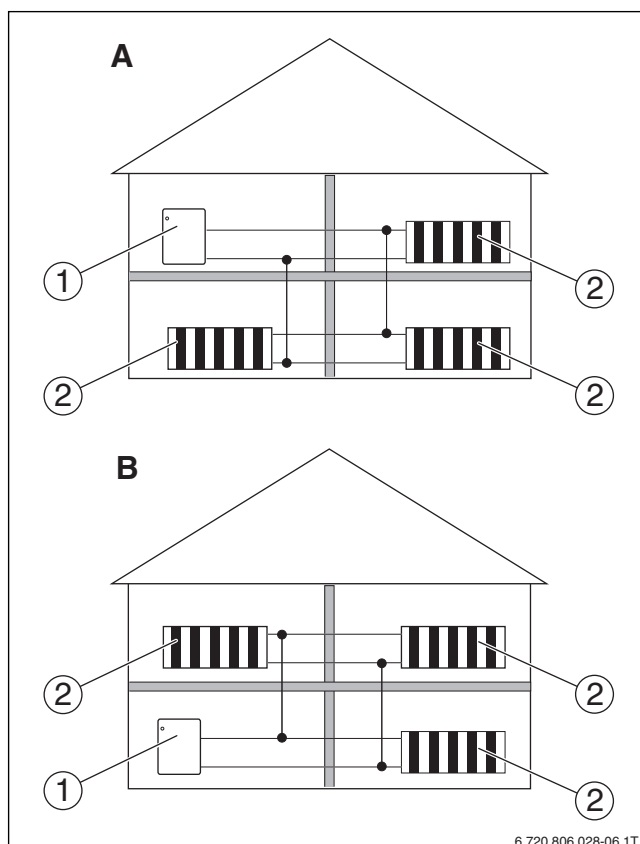

Fig. 8 Low water indicator
- ▶ The low water indicator must be installed when the boiler is installed (→ Fig. 8).